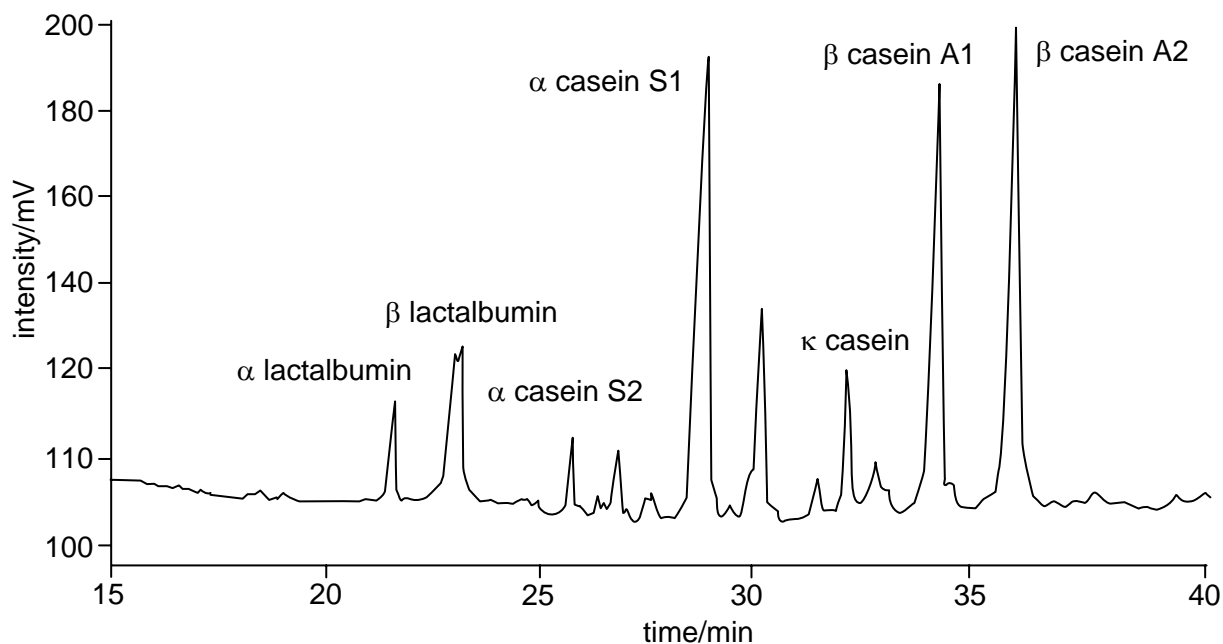

Figure 2.40 – separation of milk proteins
The main components used in a gel electrophoresis analysis (see Figure 2.40) are:
- separating milk proteins (see Figure 2.40)